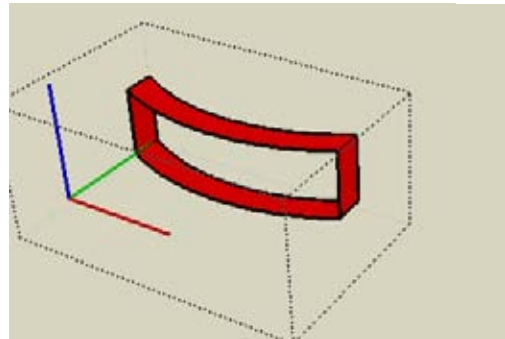

Figure 3-38
5. Trim the box so that you're left with just the frame (Figure 3-38).